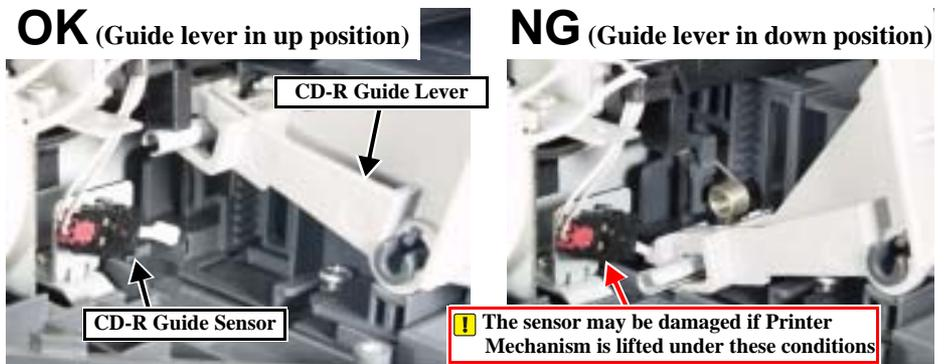

Figure 4-30. CD-R Guide Lever and CD-R Guide Sensor
- Do not remove or install the Printer Mechanism Assy with the CD-R Guide in the lower position; otherwise, CD-R Guide Sensor may be damaged. (Fig. 4-30)